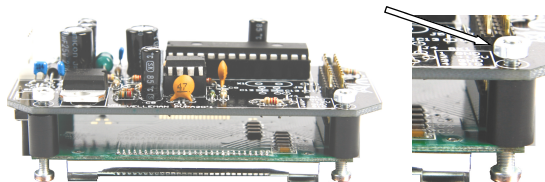

Fig.1
2. Assemble the unit but do not yet tighten the bolts (fig. 1).